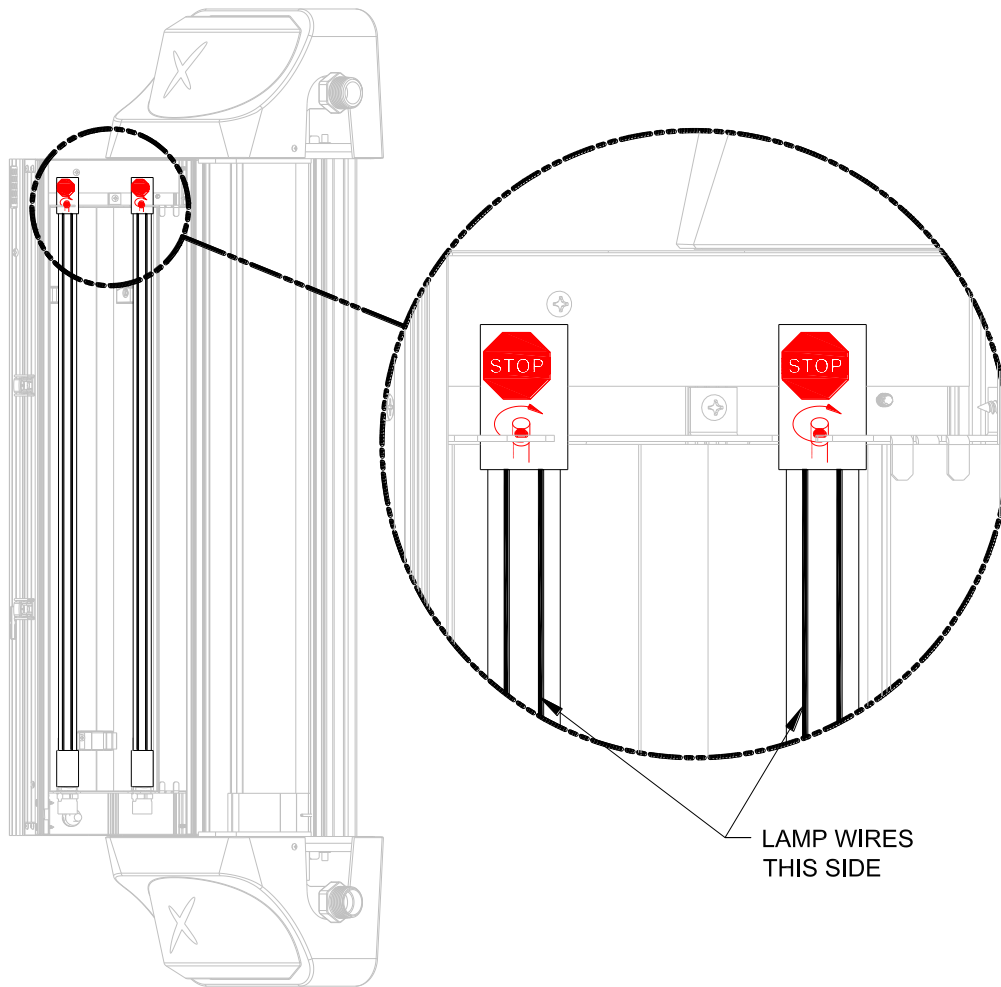

Figure 7.5
Step 3: Install the new lamps into the unit, one at a time being careful not to touch the bulb. Insert the top end of the lamp through the top lamp holder then swing lamp base in over the socket. For a LPHO lamp, rotate it until the “Stop Sign” symbol printed on the top ceramic is towards the left. See Figure 7.5. For an amalgam lamp, rotate it until the wires running down the lamp are facing the back of the unit. The proper orientation of the LPHO and amalgam lamp has the lamp wires opposite the UV sensors.